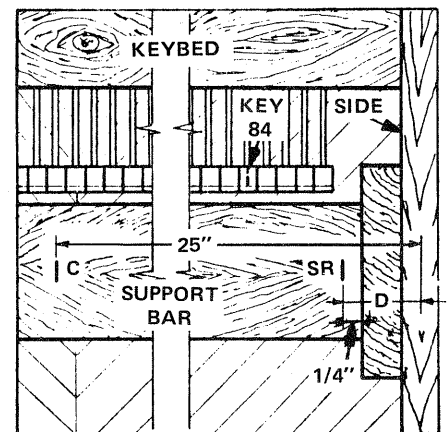

FIGURE 1-30 Measure dimension D above and mark the Support Bar.
- B. If the measurement ends AT or BEYOND the side of the piano as shown in FIGURE 1-30, determine how far to the LEFT the Solenoid Rail will have to be trimmed so its end will be 1/4" from the piano's side (dimension D in FIGURE 1-30) and write this dimension on Line D under this step on the Check List. Mark the point 1/4" from the side of the piano and label the mark "SR" as shown in the Figure. See the NOTE below.